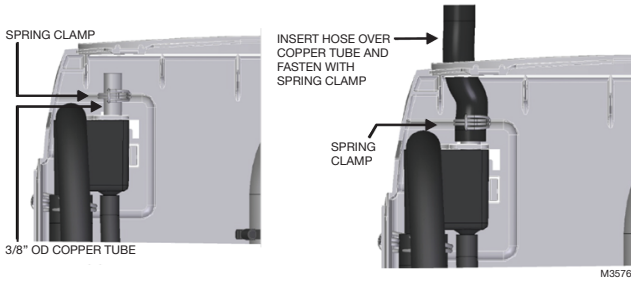

Fig. 1. Condensate return.
7. A p-trap should be installed at the bottom of the condensate trap. The center to center trap height should be 2 in. greater than duct static pressure (see Fig. 1).